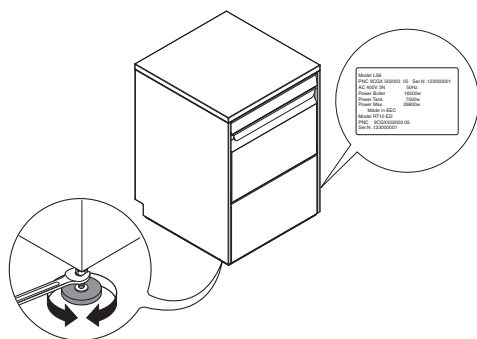

Figure 5
The rating plate contains identification and technical data and is located on the right-hand side panel of the appliance (Figure 5).
- Position the dishwasher and level the appliance by adjusting the appropriate bullet feet (Figure 5).